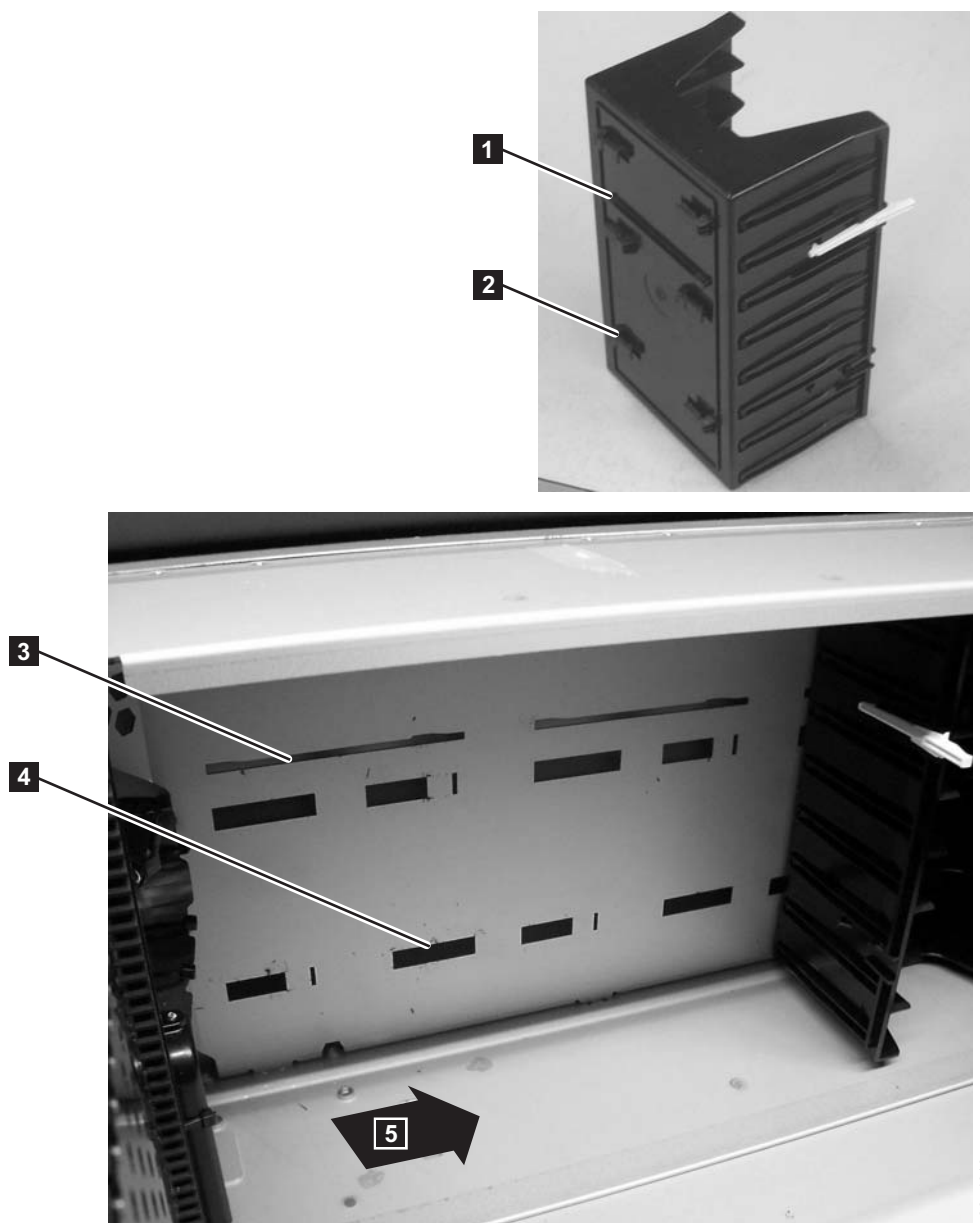

Figure 8-100. Replacing a Storage Column
- a. Tab **1** (in Figure 8-100) into slot **3** (in Figure 8-100)
- b. Tab **2** (in Figure 8-100) into slot **4** (in Figure 8-100)
4. Push the column towards the rear of the library (**5** in Figure 8-100) to engage the locking tabs on the back of the column.